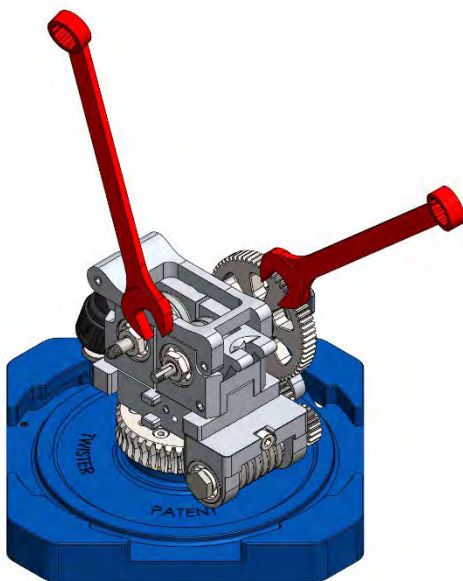

Figure 45
2. Using two 13[mm] open end wrenches, unscrew the M10 nut located on the primary contact wheel shaft as shown in the figure. Figures 45 and 46;